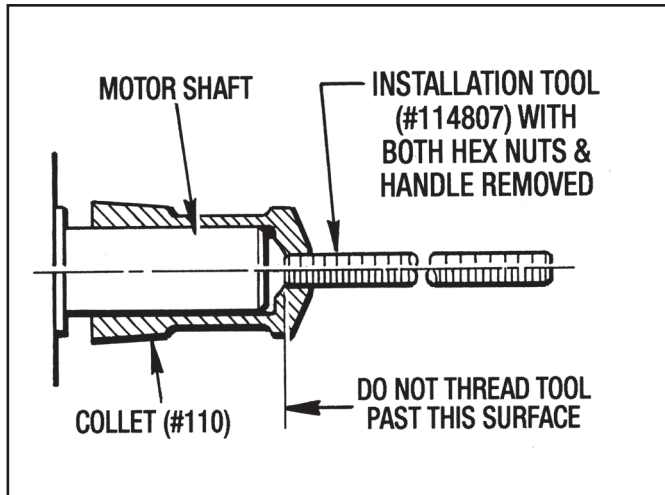

Figure 3.3 - Installing Collet on Motor Shaft
- Thread the **Special Installation Tool #114807** into the Collet (#110) and place the collet all the way on the motor shaft. (See Figure 3.3)
Only thread the tool to thread hole depth into the collet as shown in Figure 3.3.